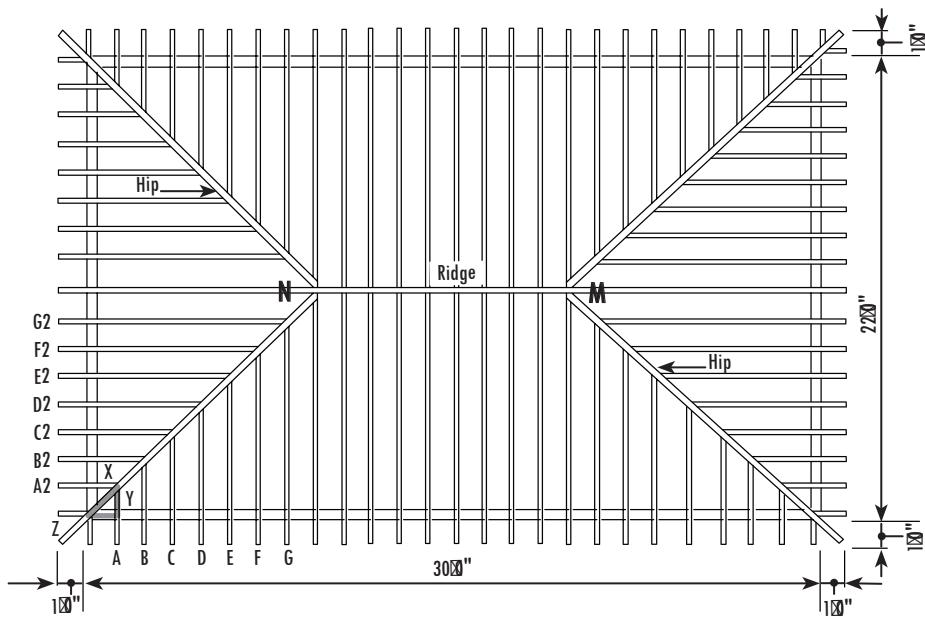
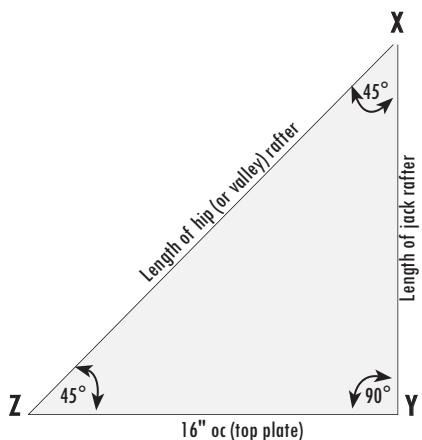

Figure 7-40
Figure 7-41
Locate the jack rafter (XY) at the bottom left corner of Figure 7-40. It forms part of the right triangle XYZ, along with the 16 inches of top plate, YZ, and the length of hip rafter, XZ. This is shown in more detail in Figure 7-41.
At 24 inches on center, length of the shortest jack rafter (side XY in Figure 7-40) for a roof pitch of 8/12 is 28.84 inches. Again, you can verify this with the table in Figure 7-30. Once you've established the length of the shortest jack rafter, A or A2 in Figure 7-40, the lengths of the others are
When estimating jack rafters, it isn't necessary to calculate each length separately. From Figure 7-40, you can see that jack rafters A (or A2) and G (or G2) can both be cut from one common rafter. The same is true with B and F or C and E jack rafters. Two D jack rafters can always be cut from one common rafter. Count the number of jack rafters required, and divide by two to get the equivalent number of common rafters needed. Add this to the number of common rafters already estimated, then add two common rafters per hip to allow for waste.